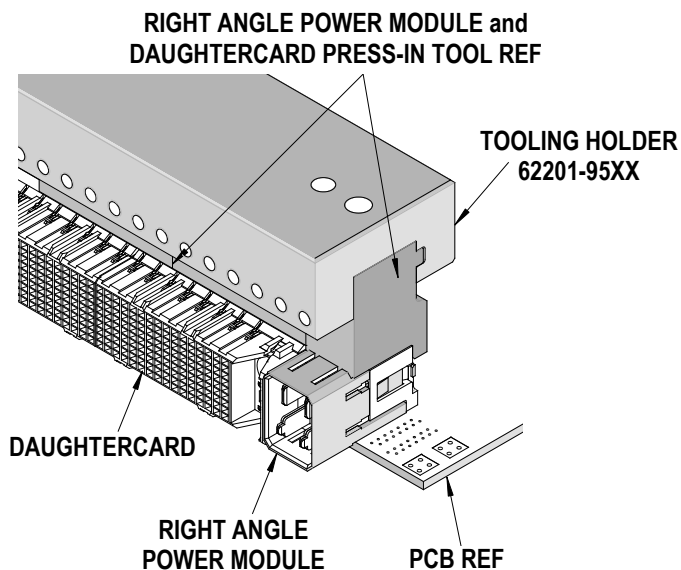

Figure 2-14
- One (1) set screw is used against the Press-In Tool under 10mm guide module.
- Two (2) set screws evenly spaced on a 10mm wide Press-In Tool.
- At least three (3) set screws evenly spaced on a 25mm wide Press-In Tool.
4. Place the application tool on top of the power module with the back guide surface of the tool against the back of the power module. See Figure 2-14.